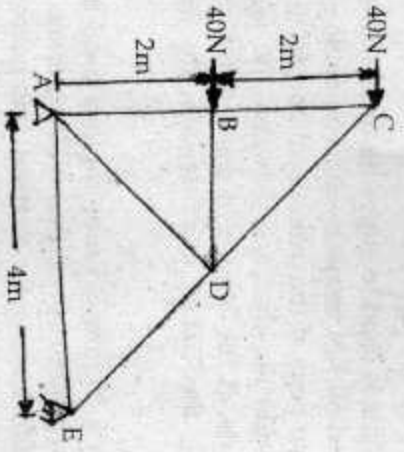

Fig. 1.4
9. Analysis the frame as shown in Fig. 1.4 and determine the forces in all members by using tension coefficient method.